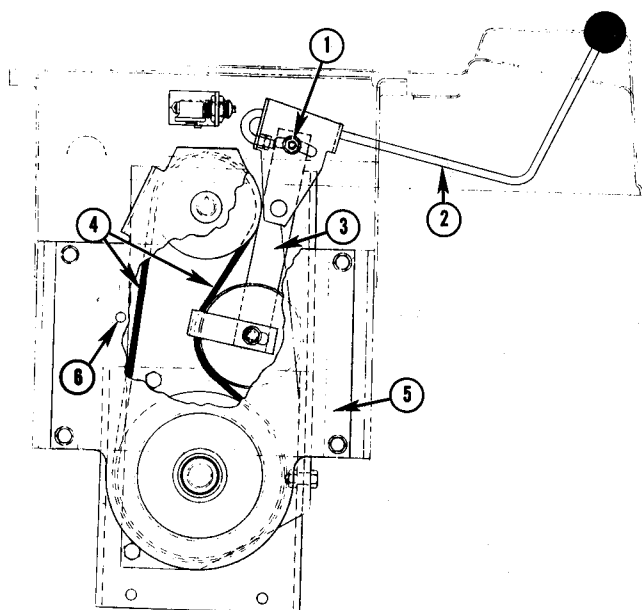

Fig. 32 — Rear PTO Belt Adjustment
1. Loosen nut, No. 1, Fig. 32.
1. Remove rear PTO cover plate, No. 5, Fig. 32, and loosen belt tension.
3. Adjust belt tension and reinstall PTO cover plate. Care should be taken when replacing PTO cover to insure that the belt guide keeper pin, No. 6, Fig. 32, is outside of belts.